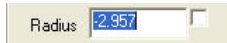

Figure 9-51. Arc – Radius
3. Move the pointer to the approximate position of the arc center point, and enter the radius of the new arc in the input bar. You can enter the radius as a positive or negative number to define the direction of the offset of the new arc (Figure 9-51).